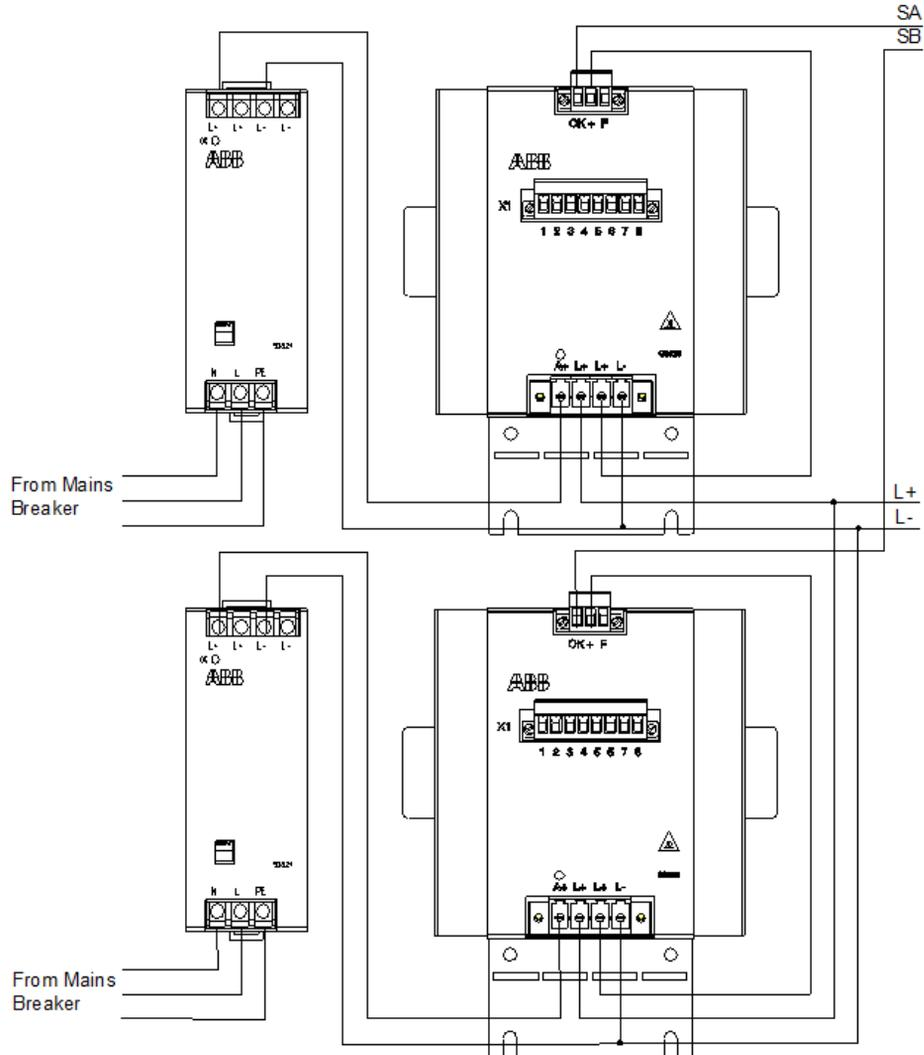
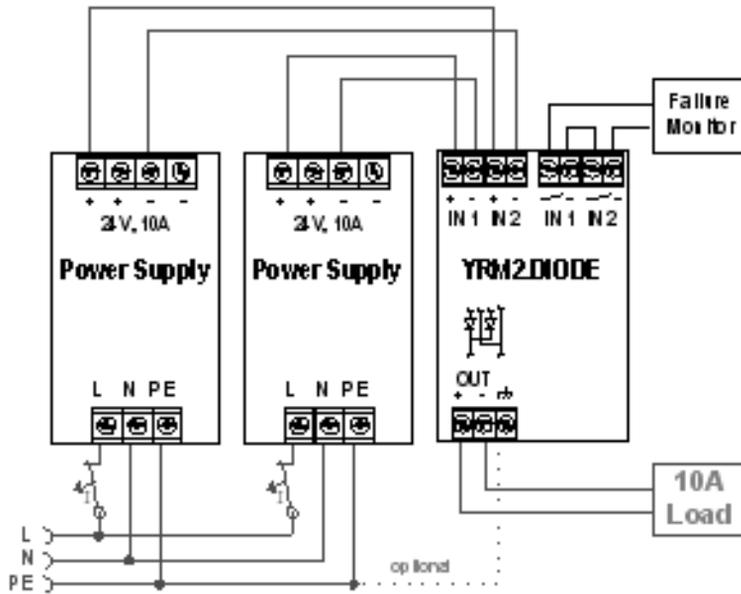
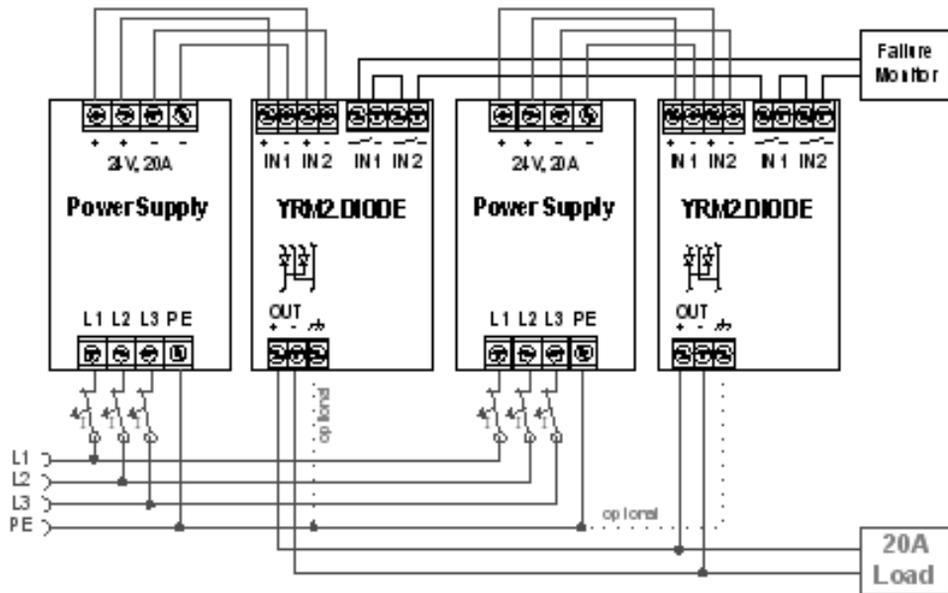

Figure 43. Redundant Power Supply for SS823
Figure 44. SS832 Redundant Configuration up to 10 A
Figure 45. SS832 Redundant Configuration up to 20 A
The SS8xx voting unit is used to connect two redundant power supplies to a common load. Depending on the system configuration requirements, the two redundant power supplies may be connected to completely separate mains supplies or to the same mains supply, as shown in Figure 43 on page 137 for SS823, Figure 44 on page 138, and Figure 45 on page 139 for SS832.
2. Connect the voting unit to the selected SD83x power supply units, in required configuration. See Figure 44 on page 138 and Figure 45 on page 139 for SS832.